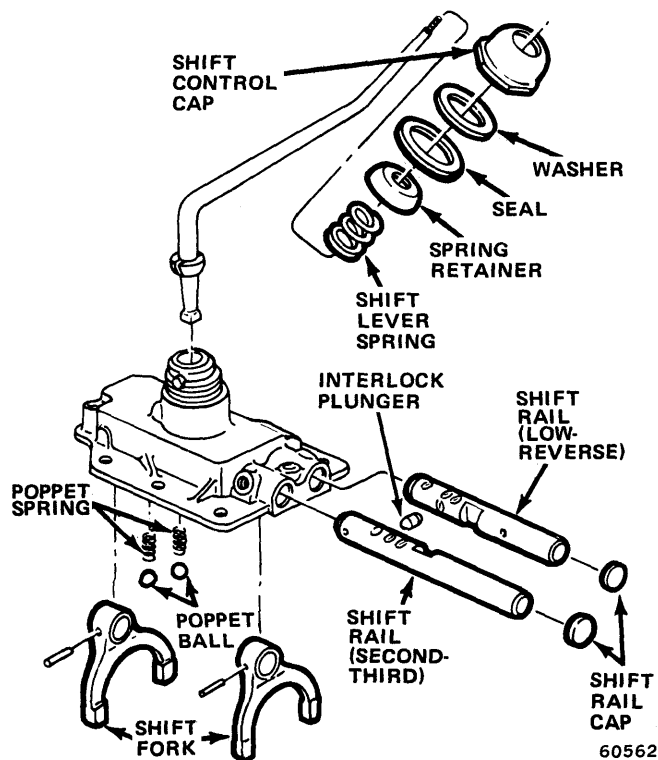

Fig. 6-17 Shift Control Housing—CJ Models
(1) Remove backup lamp switch and TCS switch if equipped.
(2) Unthread shift control housing cap and remove cap, gasket, spring retainer, and shift lever spring as an assembly (fig. 6-17).
(3) Invert housing and mount in vise. Clamp housing at shift lever tower. Do not overtighten.
(4) Move second-third shift rail to rear of housing, rotate shift fork toward first-reverse rail until roll pin is accessible. Drive roll pin out of fork and rail with pin punch and remove shift fork and roll pin.